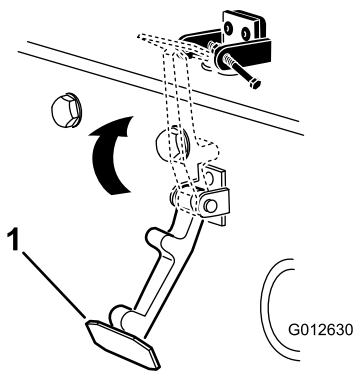

Figure 8
6. Hook the latch onto the hood latch bracket (Figure 8).